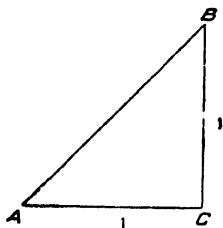

Fig. 5.
10. **The Functions of 45° .** In order to find the functions of 45° take a right isosceles triangle A C B (Fig. 5), each side about the right angle being equal to unity. Then